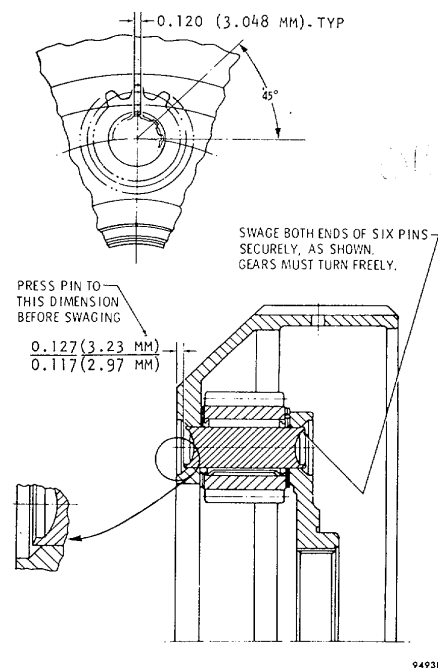

Fig. 6-68. Components of front planetary carrier assembly
(2) Install a needle roller bearing 9 (A, foldout 13) into the bore of each pinion 10. Place a steel thrust washer 11 (first) and a bronze thrust washer 8 (second) onto each face of pinion 10.
(3) Place the carrier assembly in a press. Support the carrier in such a manner that no stress will be placed on the swaged pins when the pinion pins are installed. Place a pinion group (as assembled in (2), above) into the carrier.
(4) Carefully align the parts of the pinion group with the pinion pin holes in the carrier assembly, and install pinion pin 12 (A foldout 13). Press the pinion pin through the carrier and pinion group to the dimension shown in figure 6-68.
- (5) Install the remaining pinion groups and pins in the manner described above.
- (6) Support each pinion pin on a 1/2inch (12.7 mm) (approx.) anvil. Using a suitable punch, swage the pins firmly against the carrier to form the pattern shown in figure 6-68. Pinions must rotate freely after swaging.